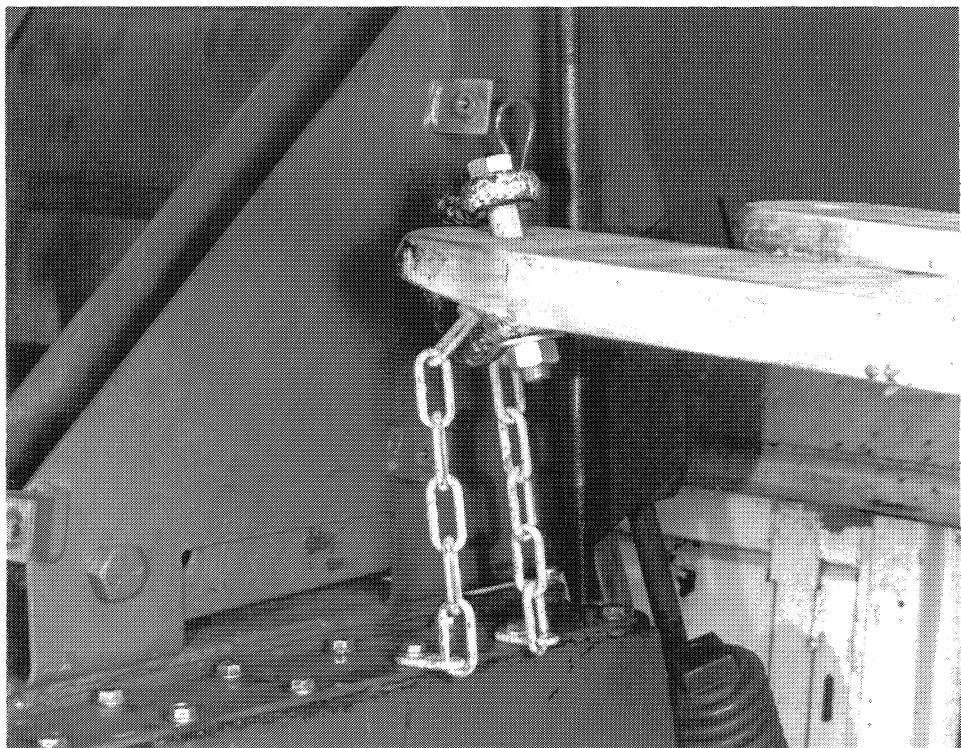
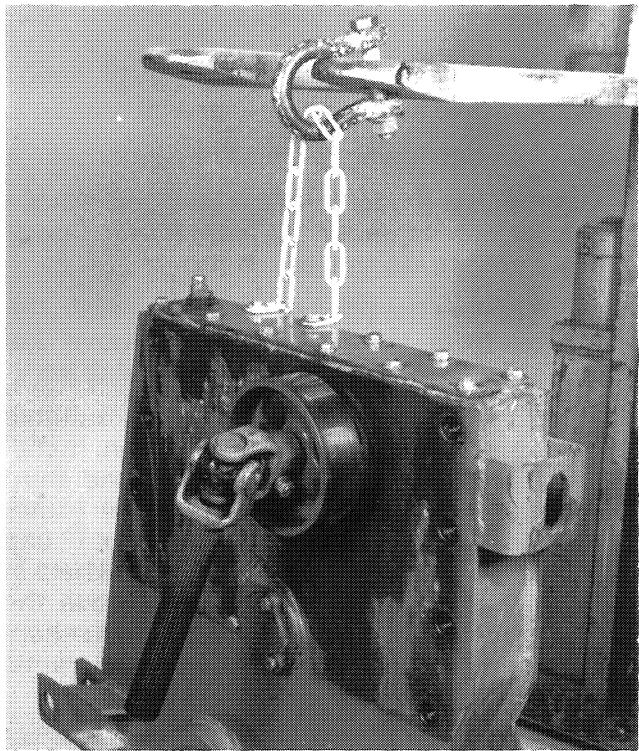

FIGURE 1-2
FIGURE 1-3
8. Support the final drive with a suitable lifting device using a short chain. Install the chain using the second and third cover cap screw from the front (outer side) See Figure 1-2. Use 5/16" x 1" cap screws and flat washers. This will help in balancing the final drive. Remove the eight cap screws and hardened washers holding the chain case to the main frame. See Figure 1-3.